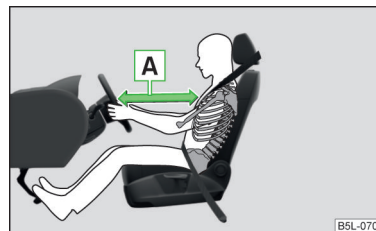

Fig. 9
- For the driver and front passenger, it is important to maintain a distance of at least 25 cm to the steering wheel or the dashboard » Fig. 9 - A. If you do not keep this distance, it means that the airbag system cannot protect you - There is a risk to life! The front seats and the head restraints must always also be correctly adjusted to match the body size of the occupant.